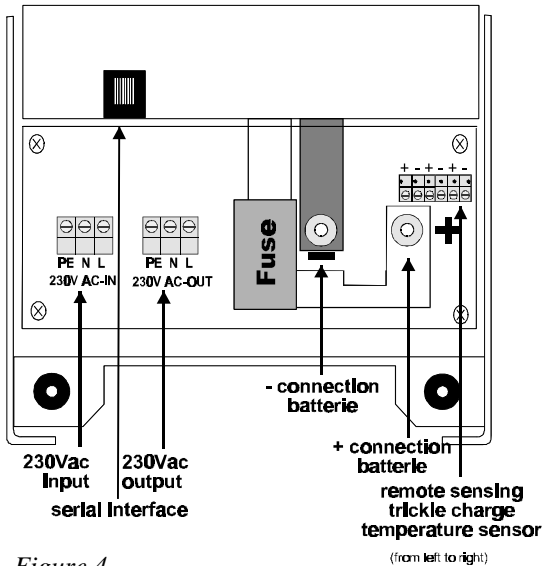
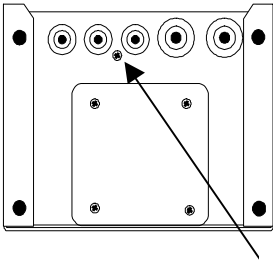

Figure 4
Figure 5
The connection points are located on the printed circuit board in the inverter (see figure 4). The cable terminals are given a code ("+" or "-"). Also take good care with the input of the charger and the output of the inverter.
For the ground connection the ground wire (ground conductor) of the mains current must be connected to the ground of the AC output terminal block “PE” (figure 4). The circuit thus created is however only active if the housing is also connected to the ground. The housing is fitted with an M4 ground screw for this purpose (figure 5).
- Connect the positive (+) battery pole to the left side of the start-up battery connection (trickle charge), see figures 4 and 7a.
- Connect the negative (-) battery pole to the right side of the start-up battery connection (trickle charge), see figures 4 and 7a.
The terminal block is located on the printed circuit board (see figure 4). The 230 Vac from the harbour or mains must be connected to the Combi using a three-core cable. Use a three-core cable with a flexible core and a cross-section of 2.5 to 4 mm².
- Connect a red 0.75mm² wire between the positive battery pole and the “+ V-sense” connector, see figure 4 and 7a.
- Connect a black 0.75mm² wire between the negative battery pole and the “- V-sense” connector, see figure 4 and 7a.
- Connect the (-) black wire of the temperature sensor to the “- T-sense” connector, see figure 4 and 7.
- Connect the (+) red wire of the temperature sensor to the “+ T-sense” connector, see figure 4 and 7.
The serial databus can be connected using a standard 8-pole datacable. For this a standard 8-pole dataconnector can be used which can be connected to the connector of the Phoenix Combi, see figure 4. This cable may have a maximum length of 100 m.